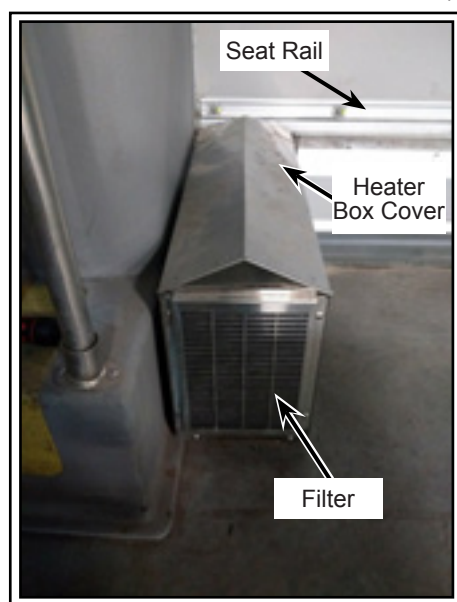

Figure 15 - Removal of Heater Box Cover and Filter
- 2.4. Remove and retain the heater box cover and filter fitted to seat rail (see Figure 15).